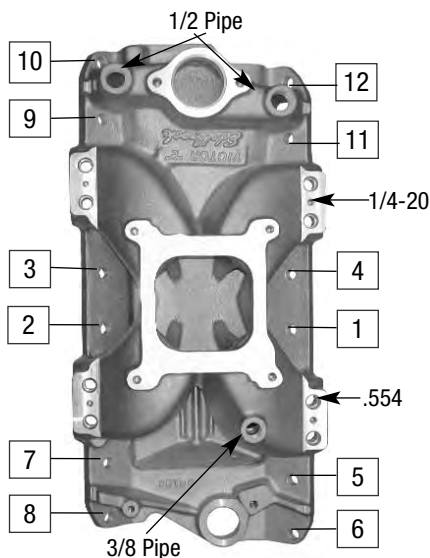

Fig. 1 - Torque Sequence
5. Install the intake manifold and hold-down bolts (we offer an intake manifold bolt kit PN 8504 that includes small head silver Cadmium-plated bolts and matching hardened washers). Apply a small amount of silicone to the threads of the eight inner bolts (1, 2, 3, 4, 5, 7, 9 & 11 in Fig. 1) to prevent oil weepage, as generally these are not blind holes in the cylinder head. Torque all of the manifold bolts in two steps by the sequence to 25 ft/lbs. (see Fig. 1).